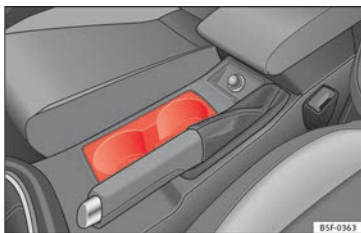

Fig. 155 Centre console: front drink holders.
- Place drinks in the holder » Fig. 155. Placement of two drinks is possible. There is also the possibility of placing larger plastic bottles in the trims of the doors.